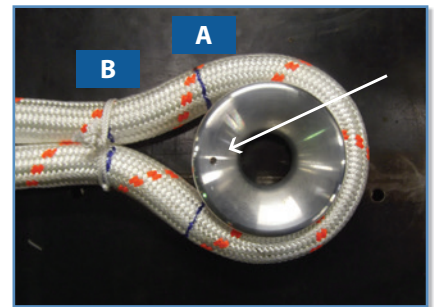

figure 3
- Place the KO-LINK back into the bearing point of the eye and tie the legs together at mark B, ensure that the securing hole of the KO-LINK is positioned in the middle and inside of the eye (figure 3).